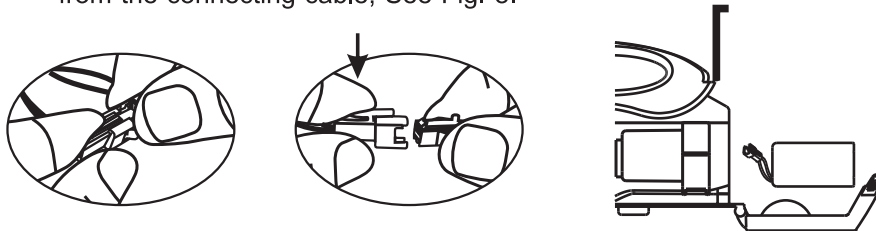

Fig. 8
- Press and release the tabs to disconnect the rechargeable battery pack from the connecting cable, See Fig. 8.